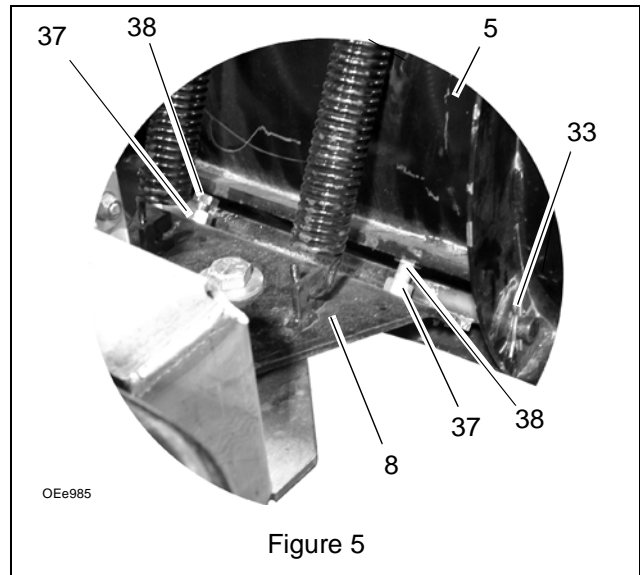

Figure 5
3. Thread a 1/2-13 hex nut (item 37) all the way up each 1/2-13 x 2 hex bolt (item 38), and then mount both bolts to the pivot plate (item 8) with the remaining 1/2-13 hex nuts (item 37). These bolts act as stop bolts for the blade. See Figure 5.
4. Slide the pivot plate (item 8) into mounting holes on the back of the 54-inch snow blade (item 5) and secure with two hair pins (item 33). See Figure 5.